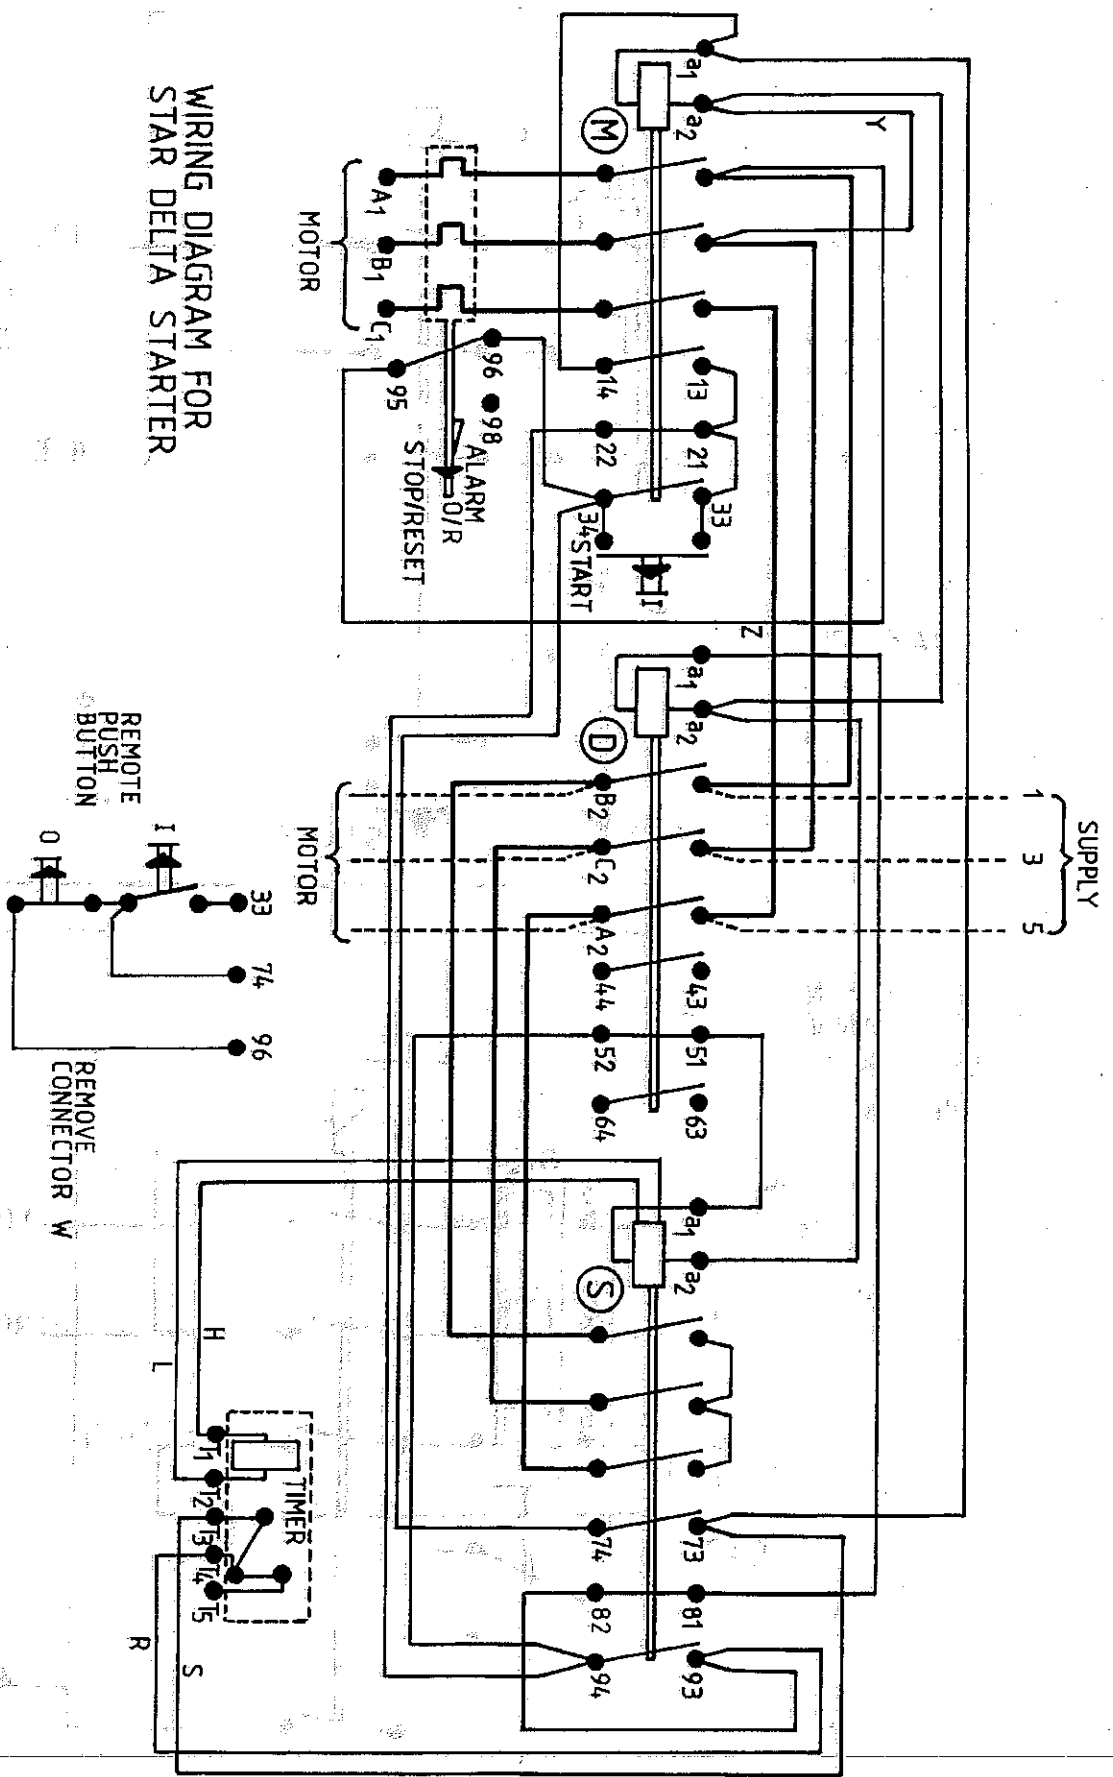

FIG. 10
- 4) Connect the line leads to the appropriate terminals. See wiring diagrams FIG.8, FIG.9 or FIG.10.